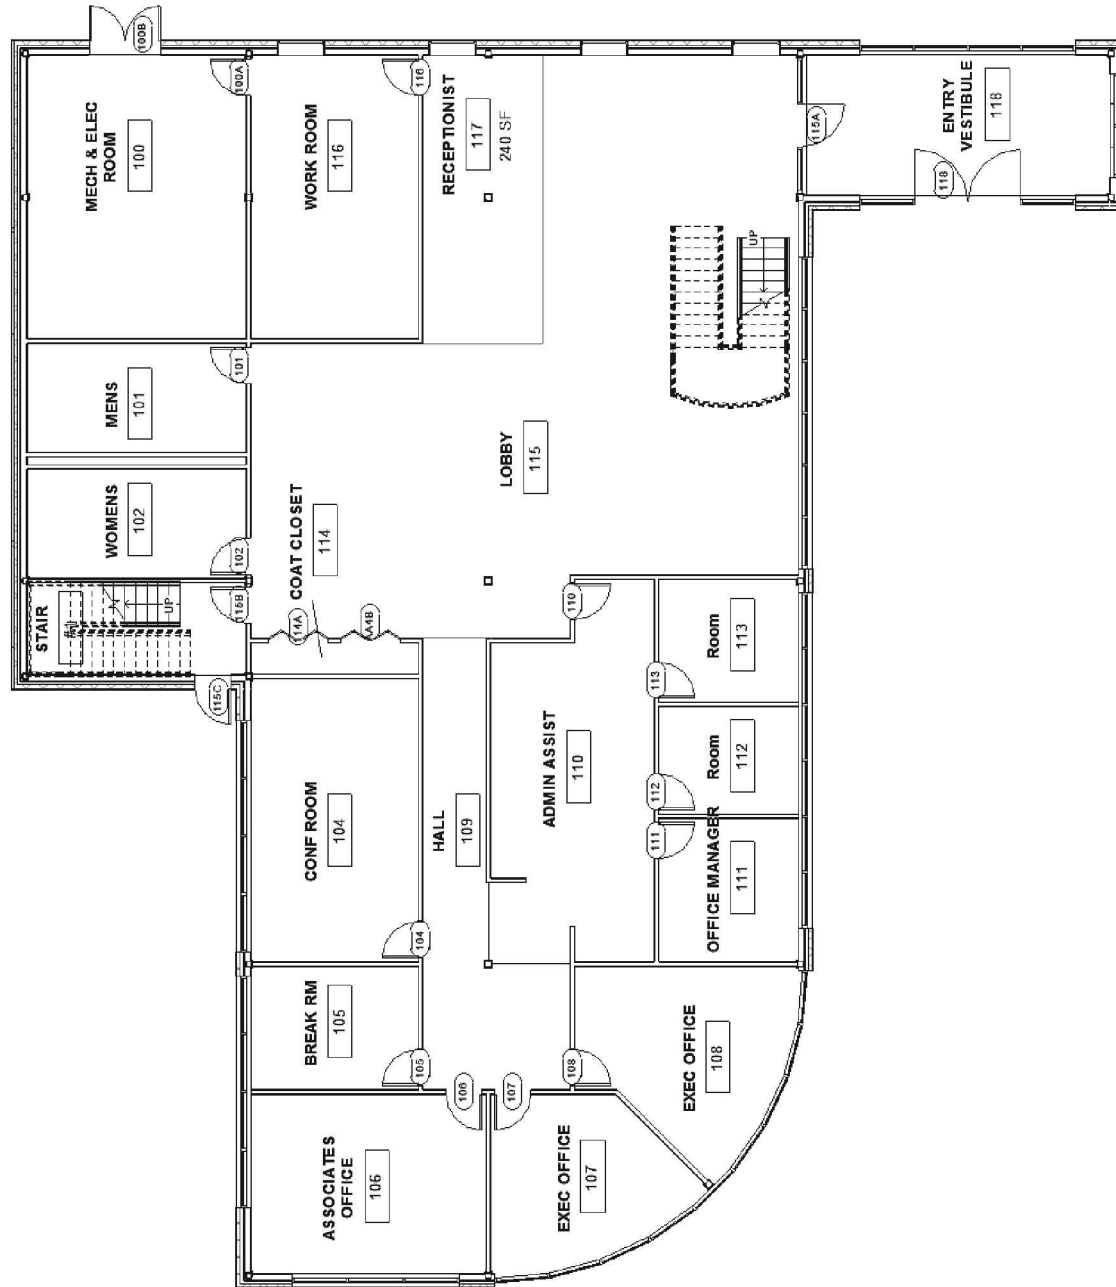

FIGURE 12-1.14 Level 1 *Door Tags* added and renumbered
28. Renumber all the *Door Tags* to correspond to the room they open into; do this for each level. See Figures 12-1.14 and 12-1.15.